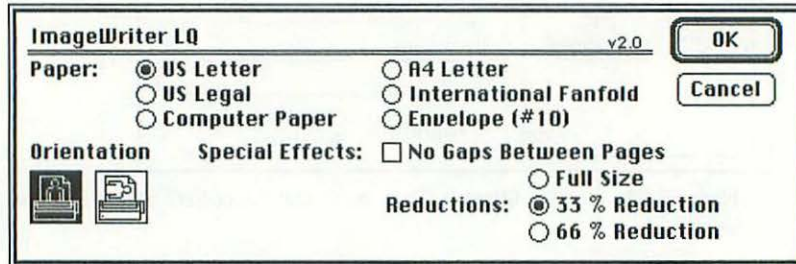

Figure 3-25 Use the Page Setup... dialog box to select the Reduction special effect.
7. Choose Page Setup... from the File menu. Select the Reduction special effect (50% or less), as shown in Figure 3-25.